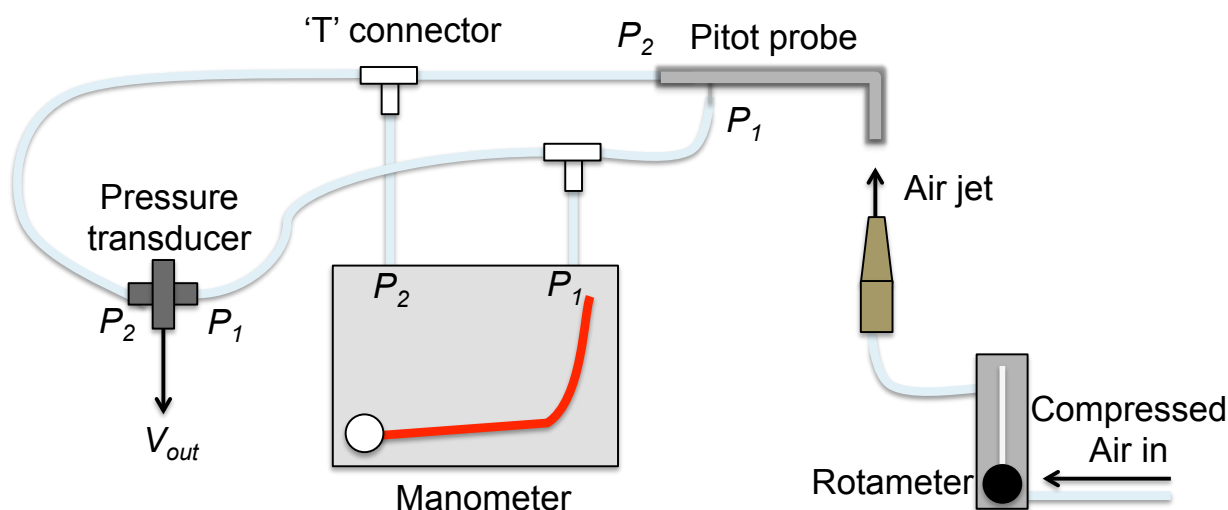

Figure 3 – A schematic of the experimental setup for calibrating the capacitive pressure transducer and Pitot probe.
6. The tubes from the transducer should be connected to a couple of 'T's, which split the gas flow between the Pitot probe and manometer. Connect the other tubes from the 'T' to the manometer and Pitot probe, as shown in Fig. 3.